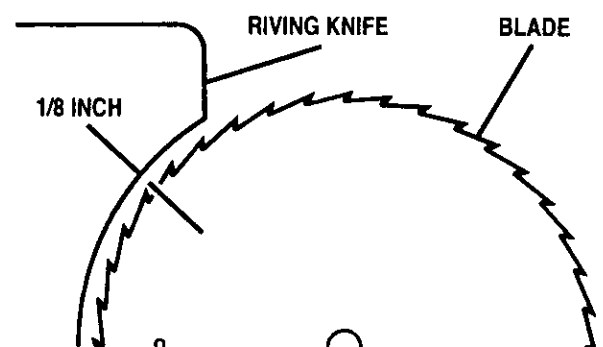
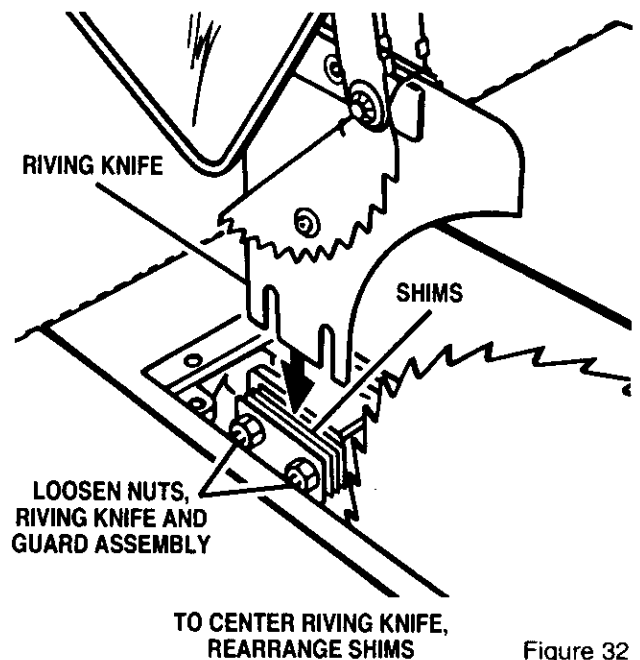

Figure 31
Figure 32
- With blade guard up, make sure the riving knife is placed at least 1/8 inch from the outer points of the blade. See Figure 31. Then make sure it is centered within the width of the blade. See Figure 32. If either placement is wrong, adjust with the following steps.